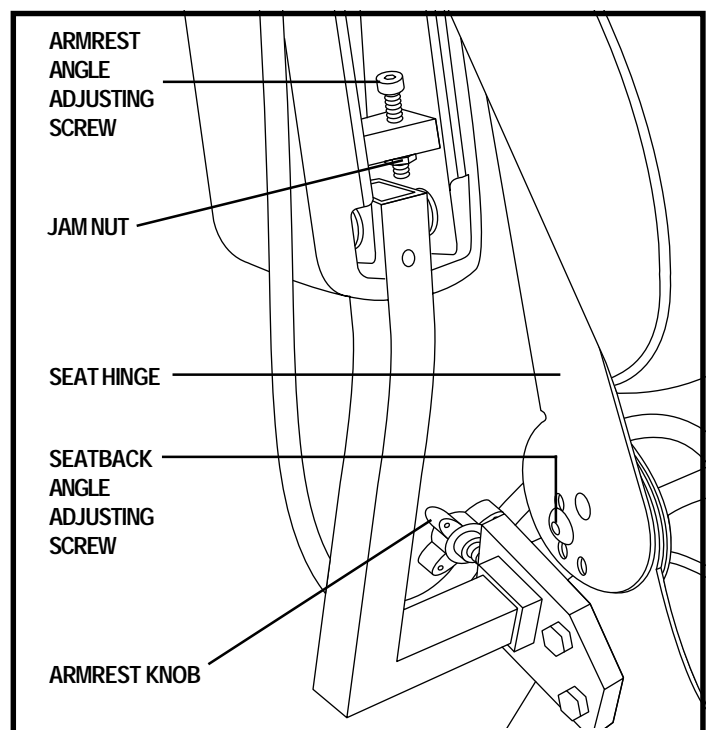

Figure 15. Seatback Angle Adjustment
1. Remove the adjusting screws from each seat hinge. See figure 15.
1. Locate the two armrest knobs on each side of the armrest receiver bracket. See figure 15.
1. Lift the armrest straight up so that it is perpendicular to the floor. See figure 15.